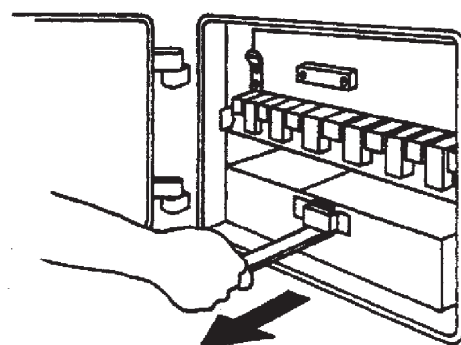

Fig.9
- De-ash and remove ashpan, empty and replace (Fig. 9).
- Remove ashpan and empty (Fig. 9).
Open the ashpit door to give access to the ashpan (See Fig. 9).